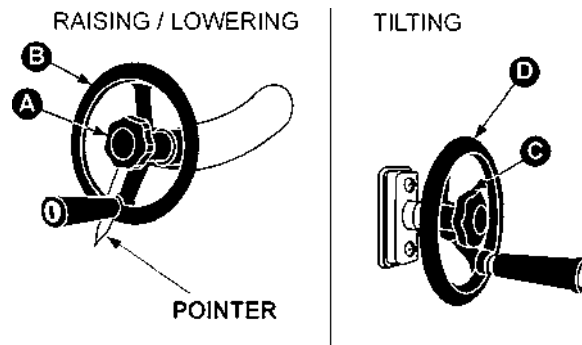
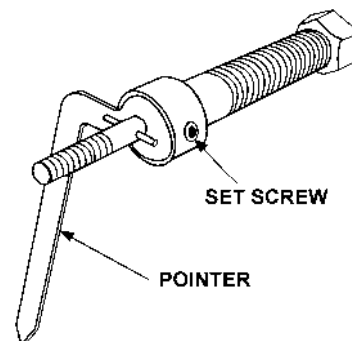

Figure 28
Figure 29
1. To raise and lower the saw blade, loosen the front lock knob (A) on the elevating handwheel as shown in Figure 28.
2. Turn front handwheel (B) clockwise to raise saw blade and counterclockwise to lower saw blade.
3. Tighten lock knob (A) when the desired height of blade is reached.
4. To tilt the saw blade to the left, loosen lock knob (C) on the tilting handwheel as shown in Figure 28.
5. Turn handwheel (D) to tilt saw blade to desired angle, as read on indicator scale on front of saw.
6. Tighten lock knob (C).
2. Remove the front lock knob and raise handwheel (A and B, Figure 28) to make the pointer's set screw accessible as shown in Figure 29.